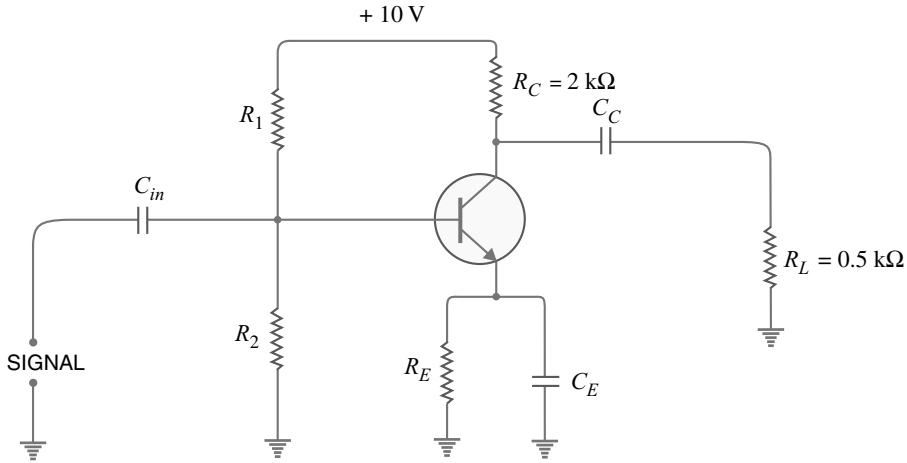

Fig. 8.26
**Example 8.11.** In the circuit shown in Fig. 8.26, find the voltage gain. Given that  $\beta = 60$  and input resistance  $R_{in} = 1 \text{ k}\Omega$ .
**Example 8.12.** In the circuit shown in Fig. 8.26, if  $R_C = 10 \text{ k}\Omega$ ,  $R_L = 10 \text{ k}\Omega$ ,  $R_{in} = 2.5 \text{ k}\Omega$ ,  $\beta = 100$ , find the output voltage for an input voltage of  $1 \text{ mV}$  r.m.s.